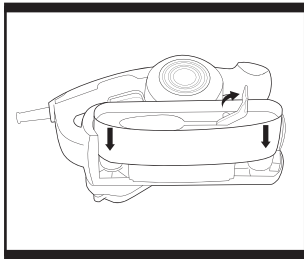
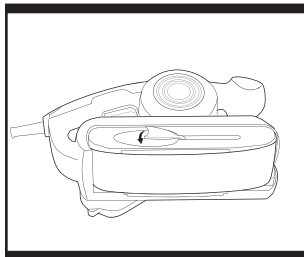

Fig. 1
Fig. 2
1. REPLACING A SANDING BELT (Fig. 1 & Fig. 2)